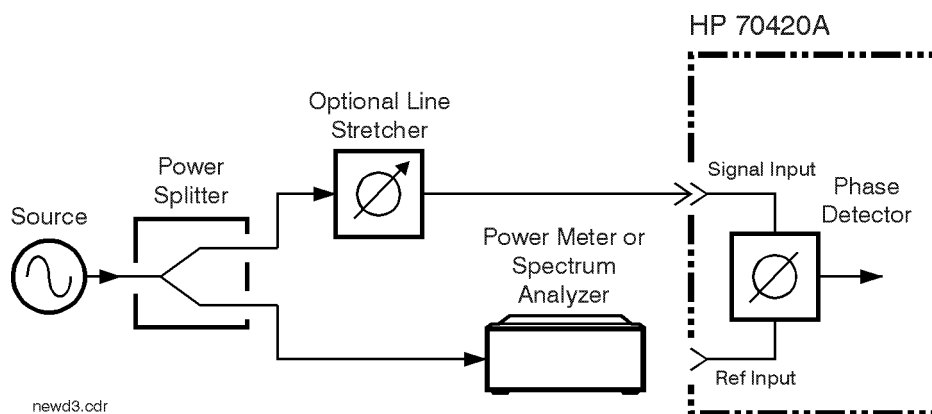

Figure 8-9 Measuring Power at Phase Detector Reference Input Port
- 5 If you are not certain that the power level at the Reference Input port is within the range shown in the preceding graph, measure the level using the setup shown in Figure 8-9.